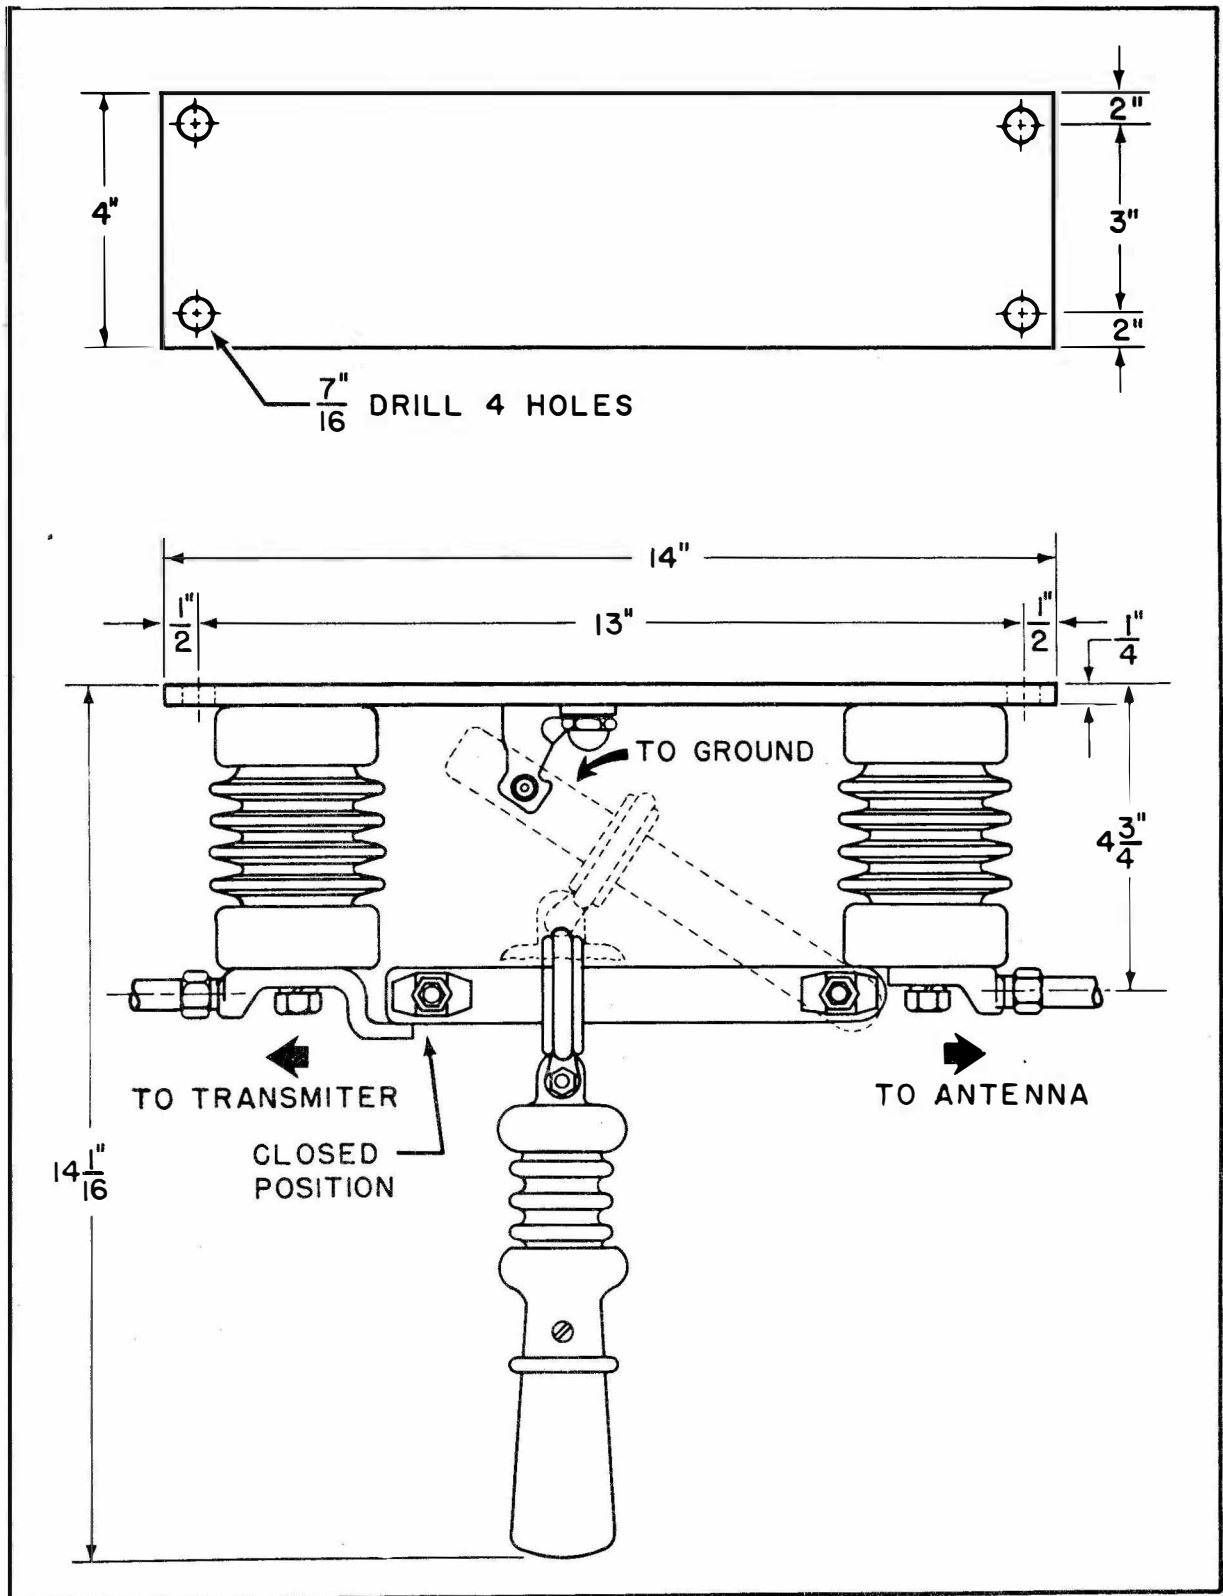

Figure 16-10. Antenna Disconnect Switch Type 24206
(2) **NAVY TYPE 24206.**—Antenna disconnect switch Navy Type 24206 is shown in figure 16-10. This disconnect switch is a single-pole, double-throw knife switch. It has two positions: "CLOSED" and "GROUNDED". In the "CLOSED" position the radio transmitter is connected to the antenna. In the "GROUNDED" position the antenna is grounded and the transmitter is disconnected from the antenna. The switch contains two Navy Type 61175A insulators as supports. It has two compression type terminals for clamping on a 3/8 inch OD copper antenna bus (see table 16-3 for specifications).